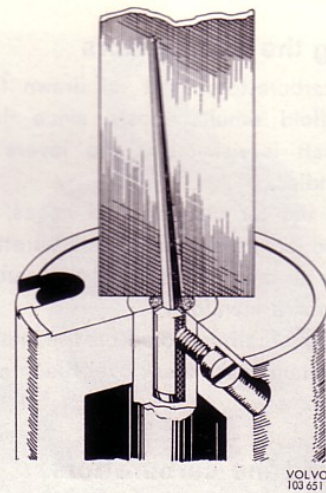

Fig. 106 Fitting the metering needle
4. Fit the needle with the spring suspension so that the flat surface faces the lock screw. The needle should incline to the holes in the air valve, i.e. in towards the carburettor throttle. The needle should be inserted so far that the plastic washer lies flush with the valve, see Fig. 106. Tighten the lock screw.